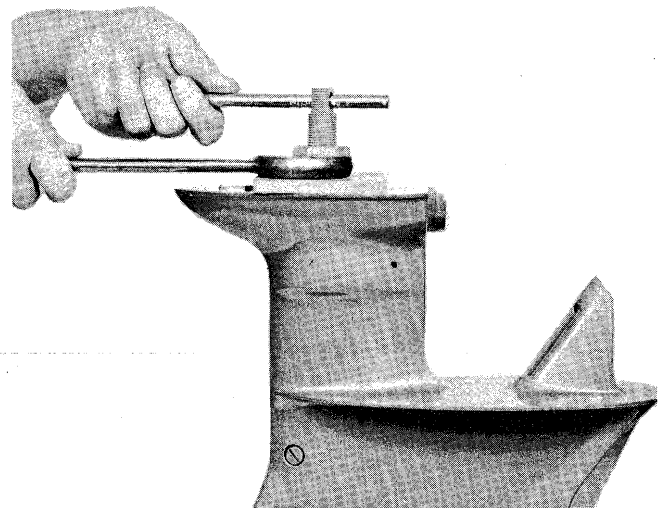

Figure 2. Removing the bearing assembly
6. Turn puller nut up against the puller plate as shown in Figure 2.
3. Place the needle bearing on pilot of the installing spindle as shown in Figure 2 — but, make certain the flat (printed) face is directed downward. This is of utmost importance since *no* pressure while installing should be applied against the "rolled" end.